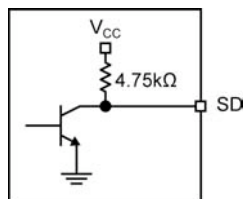

Figure 4. SD Output Structure
The SY88149CL generates a chatter-free Signal-Detect (SD) open-collector TTL output with internal $4.75\text{k}\Omega$ pull-up resistor, as shown in Figure 4. SD is used to determine that the input amplitude is too small to be considered a valid input. SD asserts high if the input amplitude rises above threshold set by SD_{LVL} and de-asserts low otherwise. SD can be fed back to the enable (EN) input to maintain output stability under a SDs of signal condition. EN de-asserts low the true output signal without removing the input signals. Typically, 3.4dB SD hysteresis is provided to prevent chattering.